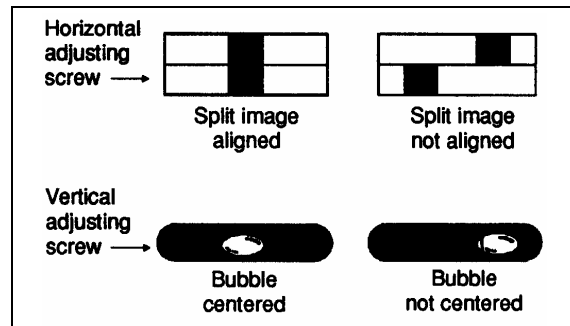

FIGURE 57: HEADLIGHT ALIGNMENT
3. Turn the horizontal aim adjusting screw of each headlight until split image is aligned (Fig. 57 and 58).
2. Turn the adjusting screw of the headlight vertical aim until bubble is centered (Fig. 57 and 58). Repeat operation on other headlight.